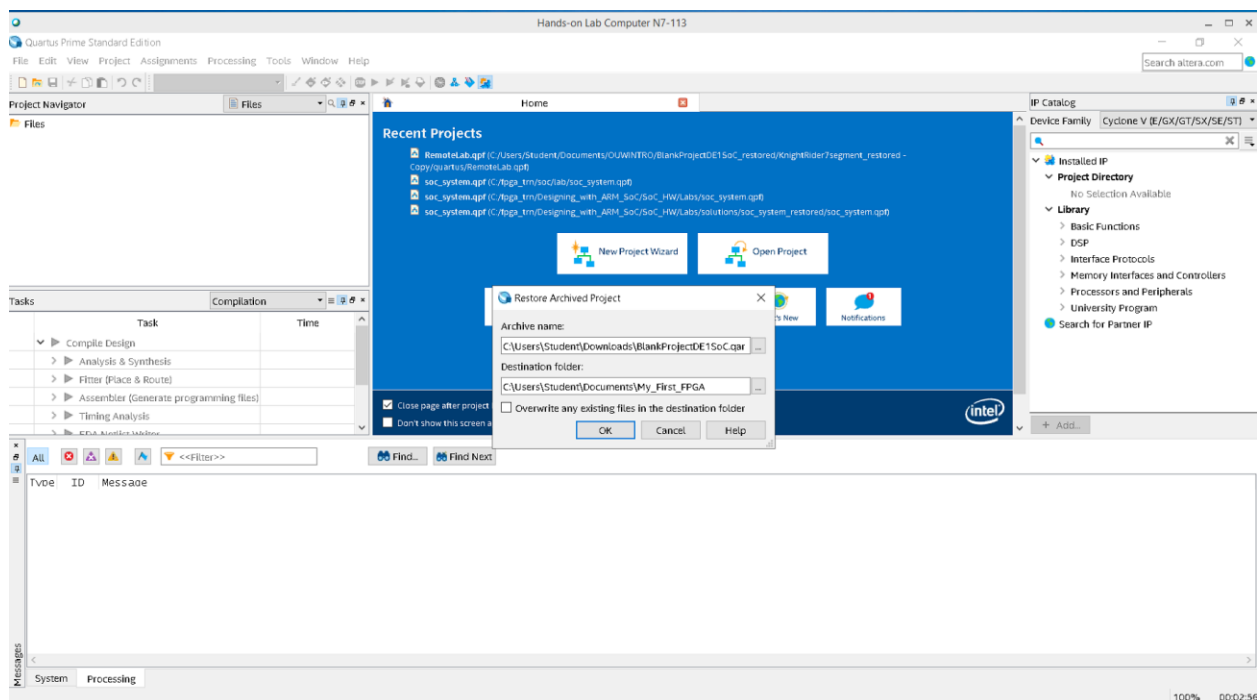
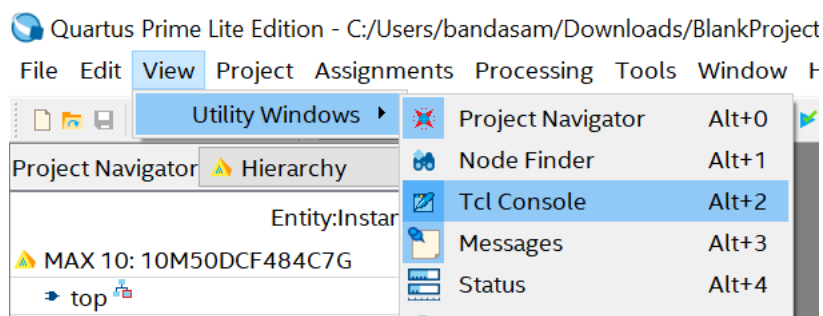

Figure 4: Restore Archived Project for Blank Project
Figure 5: Utility Window dropdown
- ☐ When you open the .qar file you will see the message from Figure 4 above. Click **OK** to restore the project.
- ☐ Some windows may not be shown by default. To customize what windows are shown, click on the **View** tab and look under the **Utility Windows** drop down as seen in Figure 5. The setup in Figure 4 is good for this exercise.